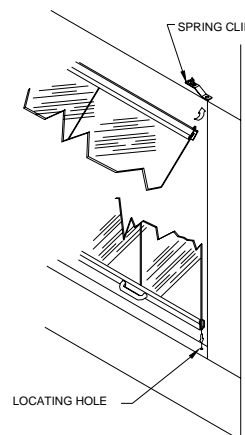

Figure 15 - Installing Fixed Glass Doors
1. Hold the glass door firmly at both handles and insert top pins into the clips located below the upper facial edge of the firebox opening. Make sure the top pins snap securely into the holes on the spring clips (see **Figure 15**).